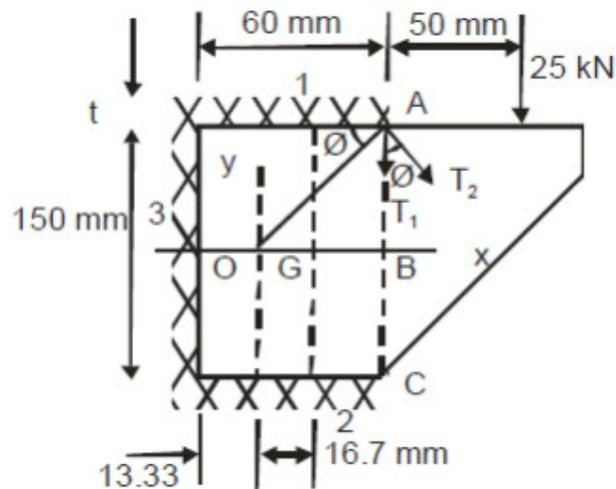

Figure 1
6. A bracket is welded to its support as shown in Figure 1. All welds are fillet welds of equal thickness. Determine the fillet size if the permissible stress in the weld is  $80\text{ N/mm}^2$ .